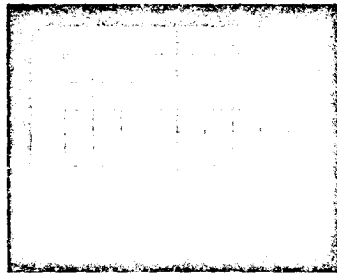

Figure 30. CRT Trace With Front-Panel **VERT POSN** Control Correctly Adjusted
- i. On the 8750A, press **STORE INPUT**, then **INPUT-MEM**. The oscilloscope CRT trace should resemble the trace shown in Figure 30. Adjust the 8750A front panel **VERT POSN** control to place the oscilloscope CRT trace on the center graticule line. If the **VERT POSN** control runs out of range, change the vertical position control on the oscilloscope to bring it into range.
- l. On the 8750A, press **STORE INPUT** then **INPUT-MEM**. The oscilloscope CRT trace should resemble the trace shown in Figure 30. Adjust the 8750A front panel **VERT POSN** control to place the oscilloscope CRT trace on the center graticule line. If the **VERT POSN** control runs out of range, change the vertical position control on the oscilloscope to bring it into range.